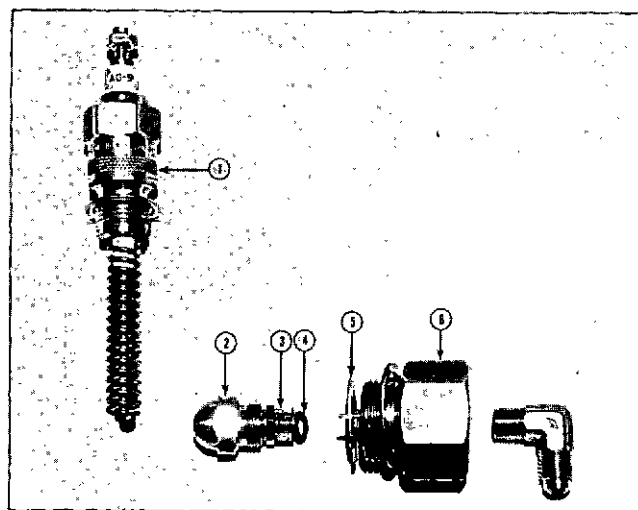

Fig. 10-2-1, N21019. Glow plug/preheater adapter/spray nozzle
1. Remove preheater adapter (6, Fig. 10-2-1) from intake manifold.
2. Remove nozzle (2) and clamping washer (5) from adapter (6).
3. Remove glow plug (1) from intake manifold.
or equivalent. Be sure nozzle screen (3, Fig. 10-2-1) and spray holes are open and clean. Check "O" ring (4) for damage.
1. Assemble clamp washer (5, Fig. 10-2-1) and nozzle (2) to adapter (6).